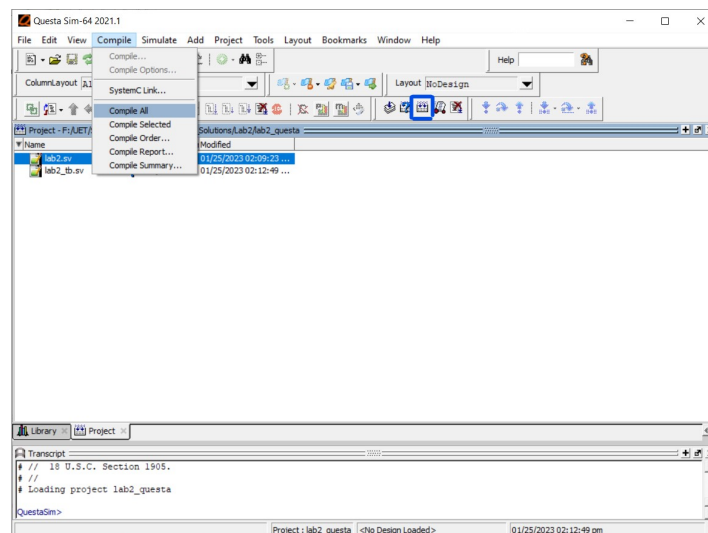
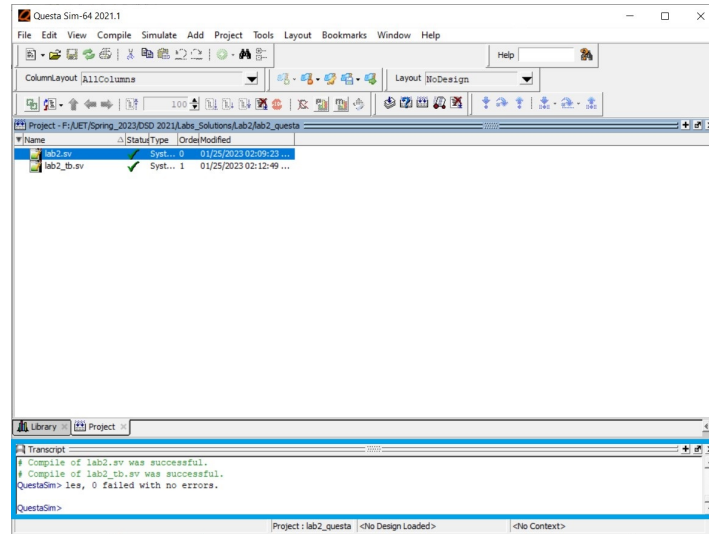

Fig. 2.8: Compiling on QuestaSim.
Fig. 2.9: QuestaSim project created.
6. Click on *compile all* (Fig. 2.8). If there are no errors the transcript will show no errors (Fig. 2.9). Otherwise the Transcript window will show the number of errors, and can be viewed by clicking on the line in the transcript which provides information about the number of errors, written in red.